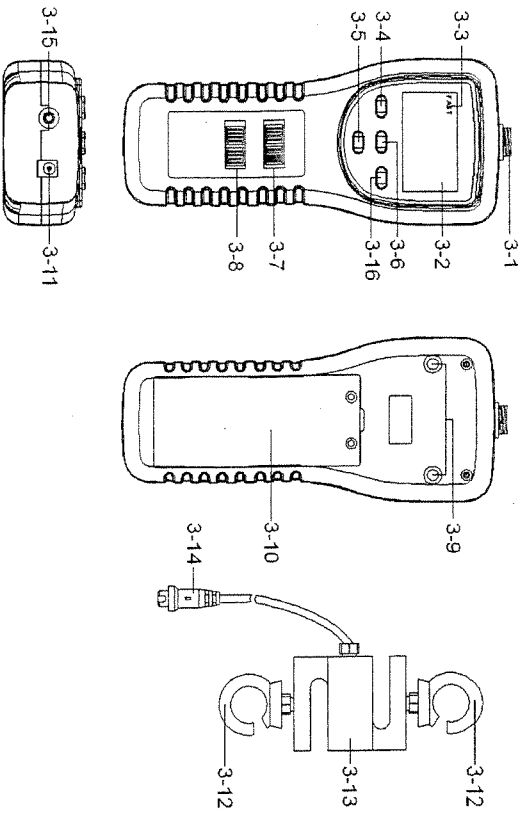

Fig. 1
- 2) When make the measurement, the " Sensor " ( 3-13, Fig. 1 ) should be on a line with measuring object.
- 3) Rotate the sensor's body is prohibited. Some certain angles between " Sensor " ( 3-13, Fig. 1 ) & measuring object are not allowed.
- 1) Connect the " Sensor Plug " ( 3-14 ) to the " Sensor socket " ( 3-1, Fig.1 ).
Slide the " Power Off/On/Peak Hold Switch " ( 3-8, Fig. 1 ) to the " On " position.
- 2) Determine display unit of Kg, LB or Newton by selecting " Kg/LB/Newton Unit Switch " ( 3-7, Fig. 1 ).
- 3) Connect " Sensor " ( 3-13, Fig. 1 ) with the " Measuring Object " via the " Sensor hook " ( 3-12, Fig. 1 ) in straight line.
- 4) " Zero Adjust " by pushing " Zero Button " ( 3-6, Fig. 1 ) before every measurement.
\* During the measurement, if intend to change the display direction, just push the " Reverse Button " ( 3-5, Fig. 1 ) once.
\* There are two kind sampling time of display, FAST and SLOW. Push the "FAST/SLOW Button" once ( 3-4, Fig. 1 ), if the upper left corner of LCD shows "FAST" ( Fast Indicator, 3-3, Fig. 1 ), then the display reading is under the operation of fast sampling time.
\* If the upper left corner of LCD not show the "Fast Indicator" ( 3-3, Fig. 1 ), the display reading is under the slow sampling time.
The meter can measure the peak value of force both of tension & compression operation. The operation procedures of Peak Hold Measurement are same as above "4-2 Normal Measurement" but should slide the "Power Off/On/Peak Hold Switch" ( 3-8, Fig. 1 ) to the "PEAK H." position.
Slide the "Power Off/On/Peak Hold Switch" ( 3-8, Fig. 1 ) to the "On" position will cancel the peak hold function.
During the measurement, press the "LCD Back Light Button" ( 3-16, Fig. 1 ) momentarily, will turn on the LCD Back Light structure approx. 15 seconds automatically then off.
- 2) Take out the battery cover ( 3-10, Fig. 1 ) away from the instrument and remove the batteries.
The instrument features an RS232 output via 3.5 mm Terminal ( 3-15, Fig. 1 ). The connector output is a 16 digit data stream which can be utilized to the user's specific application. An RS232 lead with the following connection will be required to link the instrument with the PC serial input.